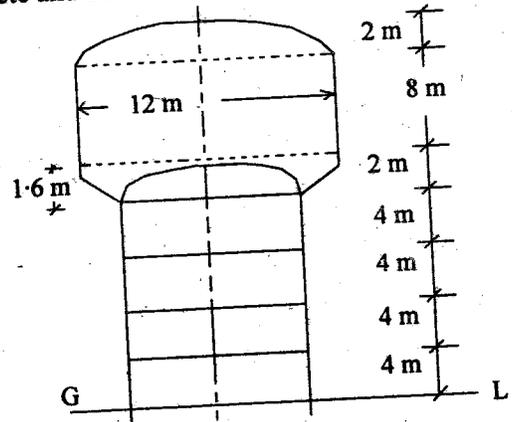

Fig. 1
- (a) Design the columns and braces of a tower of 16 m height to support the intz tank as shown in Fig. 1. Assume the wind pressure is 1.5 kN/m^2 . Vertical load on each column is 1500 kN. Tank is supported on 8 equally spaced columns. Density of concrete is 25 kN/m^3 . Use M20 grade concrete and Fe-415 steel.